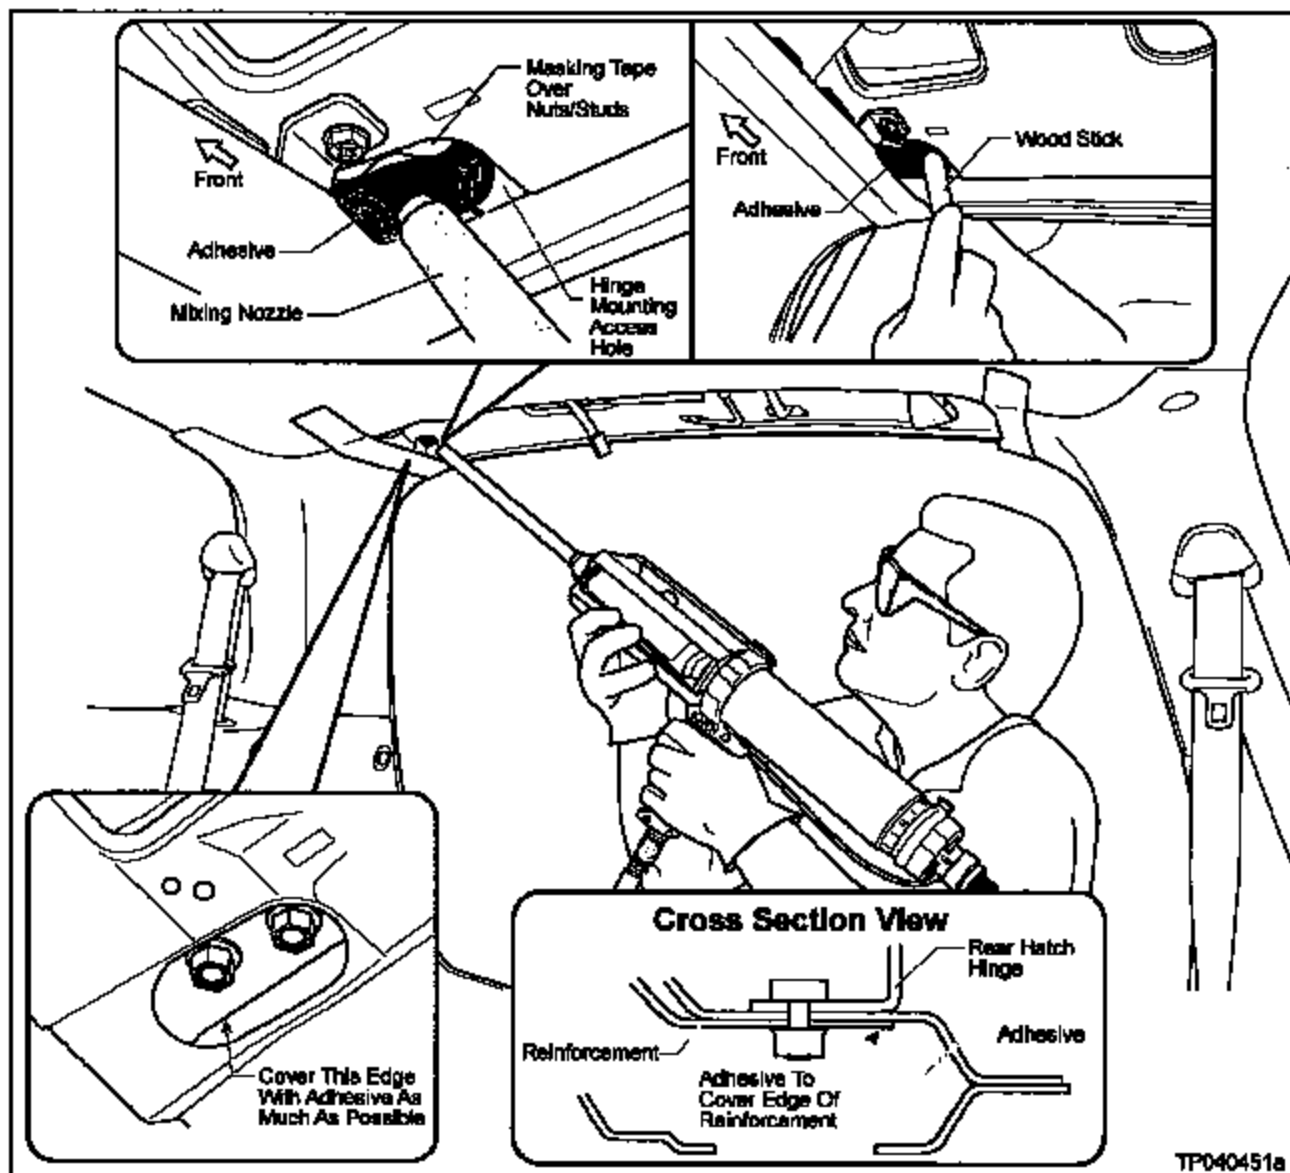

Figure A7
a. Going through the Hinge Mounting Access Hole, apply Adhesive until "Fill A" of the Cartridge is completely pushed out. See Figure A7.
- Make sure the Adhesive covers the edge of the Reinforcement (see **Cross Section View** in Figure A7).